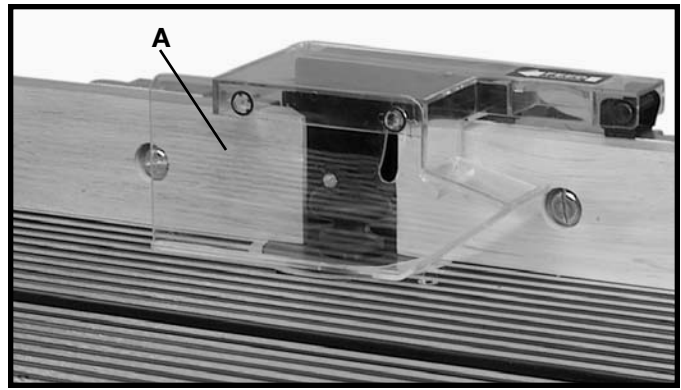

Fig. 20
The see-through cutter guard (A) Fig. 20, should always be used when using the fence to guide the work. The guard (A) raises as the workpiece is pushed along the fence and lowers at the completion of the cut.